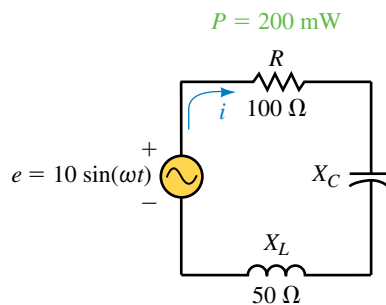

FIGURE 18–96
25. a. Suppose a voltage of $10 V \angle 0^\circ$ is applied across the network in Figure 18–88a. Use the voltage divider rule to find the voltage appearing across each element.